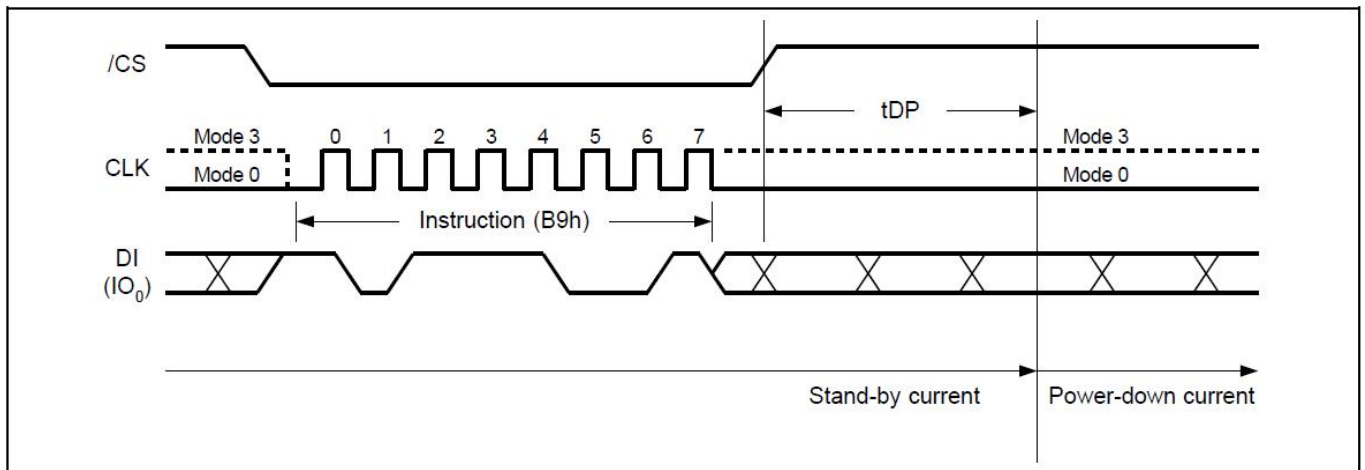

Figure14. Deep Power-Down Sequence Diagram
The Deep Power-Down Mode automatically stops at Power-Down, and the device always in the Standby Mode after Power- Up. The Deep Power-Down command sequence: CS# goes low → sending Deep Power-Down command → CS# goes high. The command sequence is shown in Figure14. CS# must be driven high after the eighth bit of the command code has been latched in; otherwise the Deep Power-Down (DP) command is not executed. As soon as CS# is driven high, it requires a delay of t_{DP} before the supply current is reduced to ICC2 and the Deep Power-Down Mode is entered. Any Deep Power- Down (DP) command, while an Erase, Program or Write cycle is in progress, is rejected without having any effects on the cycle that is in progress.